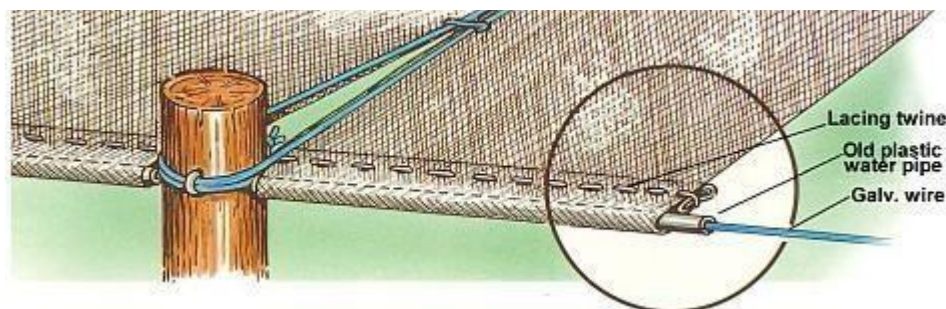

Fig 3: Anchoring the wire
- High-tensile, minimum 2,25mm cross wire through the pre-drilled holes, 100mm from the top of the pole, at tops of each row of poles as illustrated in Fig 3.